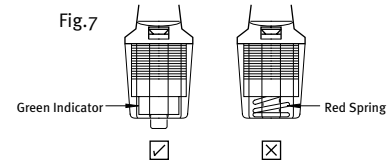

Fig. 7
- Examine the auto cap. Ensure that the cap is screwed hand tight onto the inflator. If a day-glow red spring has been exposed the auto cap mechanism has been fired or is incorrectly screwed on. (Fig. 7). If required, replace the bobbin before proceeding (Fig. 4). Next,
Inflation will occur automatically within seconds after the inflator is immersed in water. The water sensing bobbin will disintegrate, triggering a spring-loaded plunger which punctures the CO₂ cylinder to inflate the cell (Fig. 7.)
- Install the Auto Cap on the base of the inflator and hand-tighten. If the day-glow red spring (indicator) is exposed, the bobbin has been fired or damaged, or the Auto Cap is incorrectly threaded (correct before going to step 9). (Fig. 7).